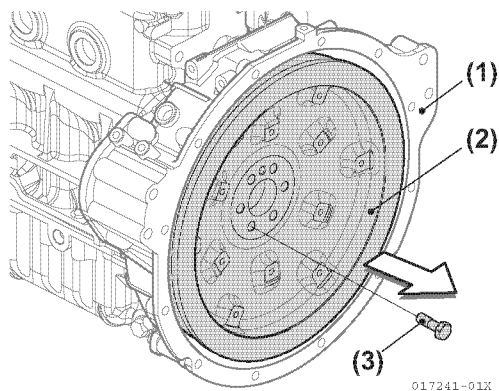

Figure 5-43
35. Loosen the flywheel bolts and remove the flywheel (**Figure 5-43**).